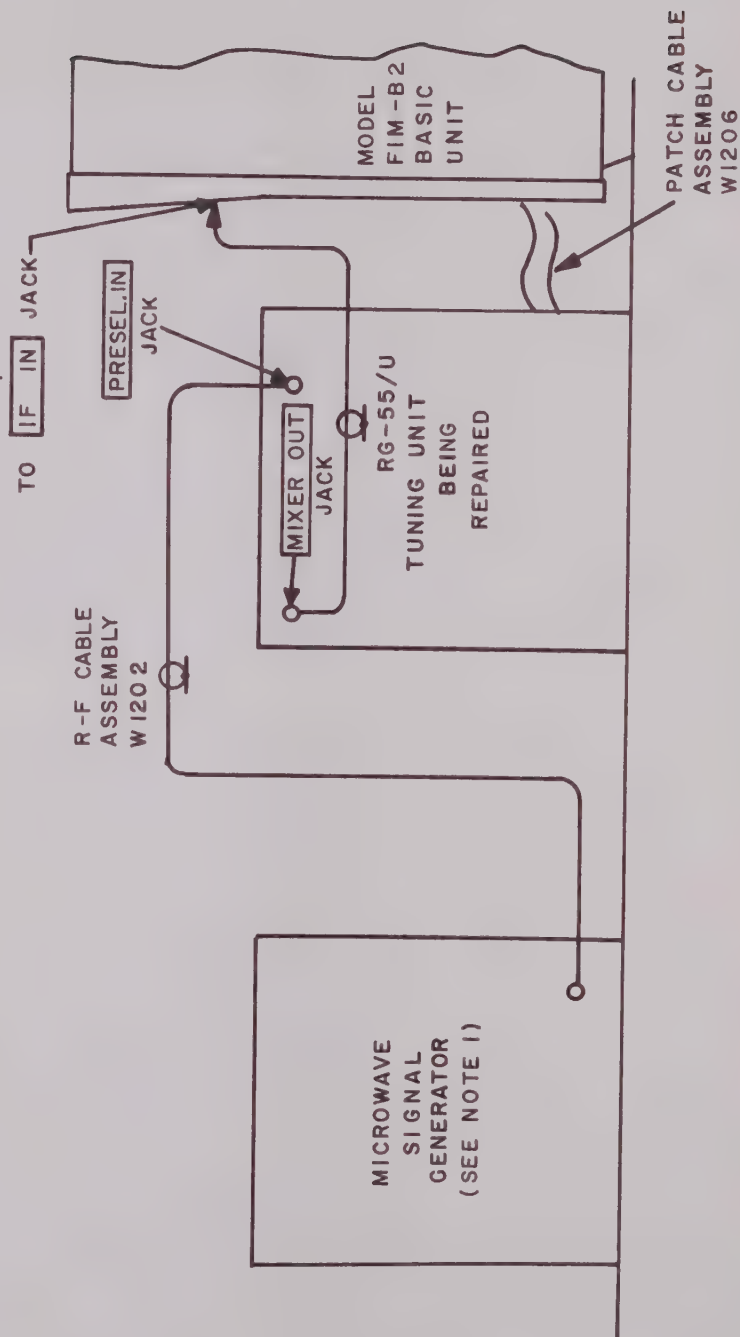

Figure 4-36. Presetor Alignment, Equipment Set Up
e. Connect patch cable assembly W1206 between P1150 of the Tuning Unit and J1150 of the Basic Unit, as shown in figure 4-36.
h. Connect a length of RG-55/U coaxial cable between the MIXER OUT jack and the IF IN jack, as shown in figure 4-36.
p. Connect the microwave signal generator to the PRESEL IN jack, as shown in figure 4-36.
- c. Connect patch cable assembly W1206 between P1150 of the Tuning Unit and J1150 of the Basic Unit, as shown in figure 4-36.
- f. Connect a length of RG-55/U coaxial cable between the MIXER OUT jack and the IF IN jack, as shown in figure 4-36.
n. Connect the microwave signal generator to the PRESEL IN jack, as shown in figure 4-36.